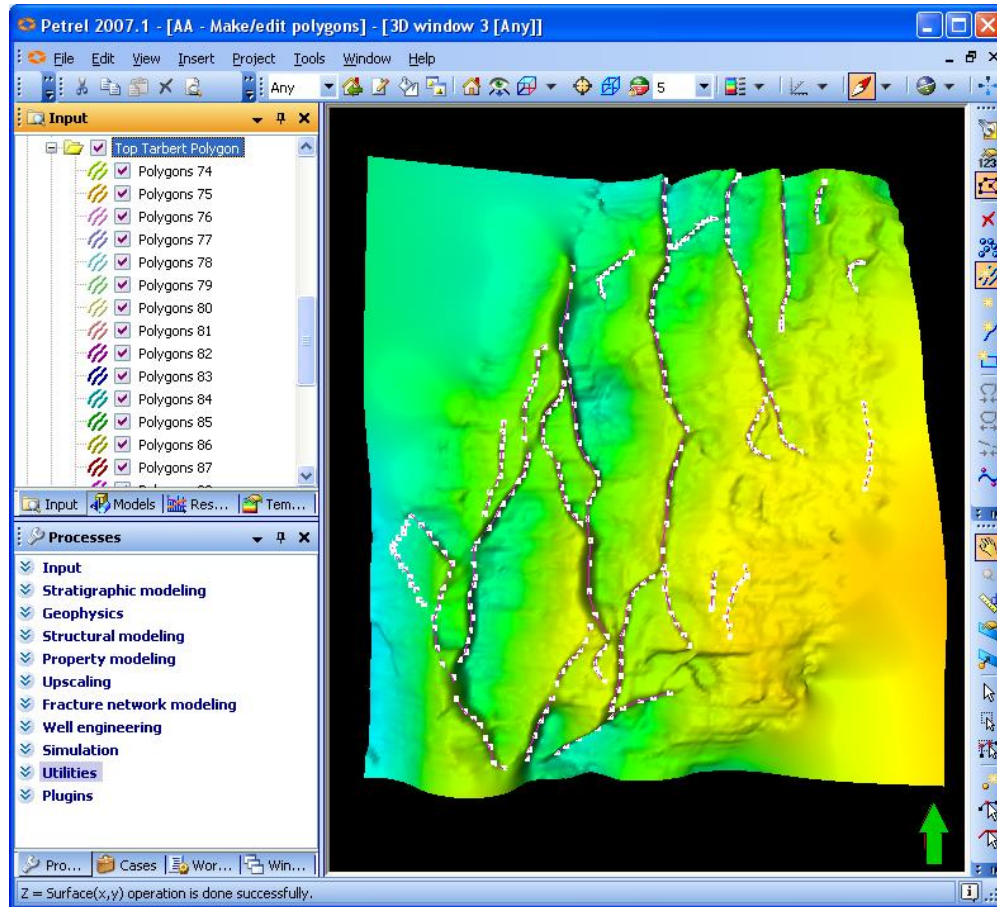

Fig. 9.31: Top Tarbert fault polygons projected on their surface
5. Complete all the remain fault polygons for **Top Tarbert** surface. And all the fault polygons moves down to the surface as shown in Fig. 9.31.